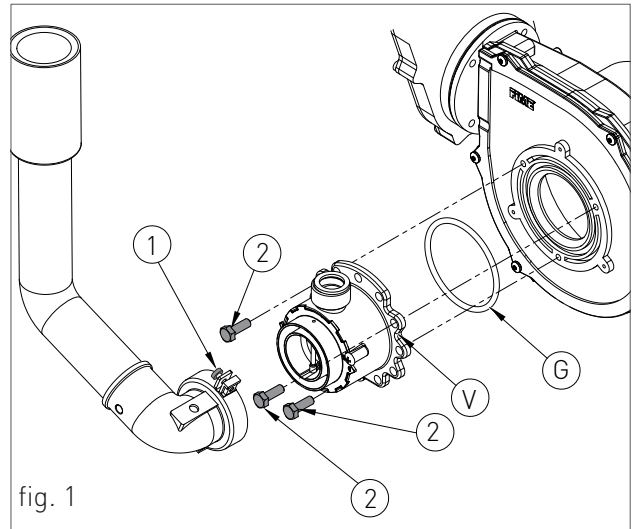
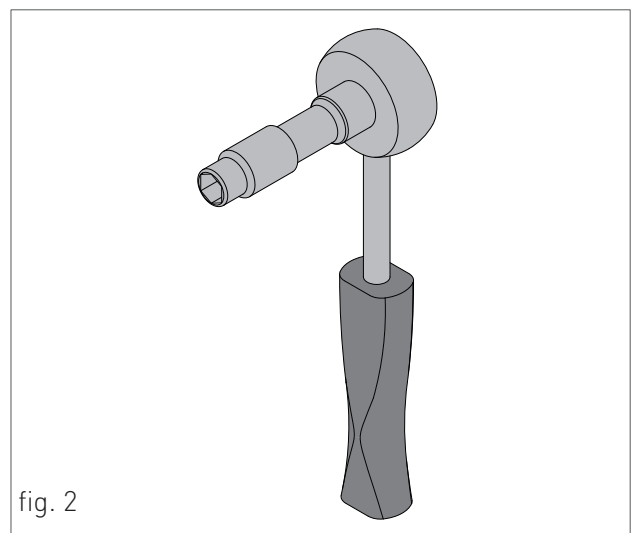

fig. 1
fig. 2
- > loosen the two screws '1' (fig.1) from the fastening bush, and remove the air suction tube;
- > unscrew the three fastening screws '2' (fig.1) of the venturi 'V' (fig.1) using a 10 key, as shown in figure 2;
- > remount the components following the demounting operations in reverse making sure that gasket 'G' is re-assembled as shown in fig.1;